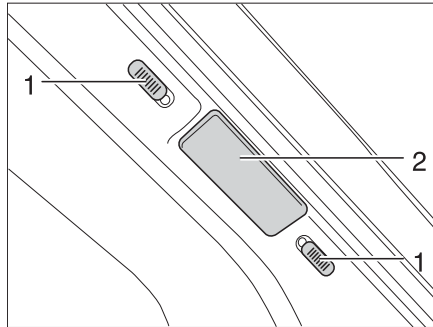
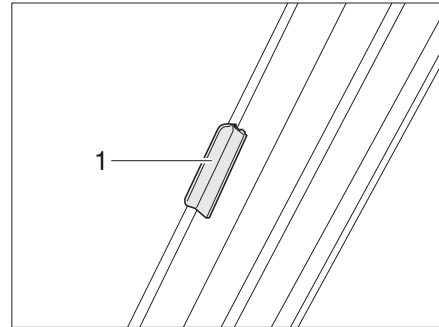

Fig. 25 Lock for the Roman shade of the windscreen
Fig. 26 Lock for the Roman shade of the windscreen (model I)
- Use the handle (Fig. 25,2 and Fig. 26,1) to pull the two halves of the Roman shade for the windscreen outwards as far as they will go.
- Push the locking knobs (Fig. 25,1) upward or downward. If the red dot is visible, the lock is open.